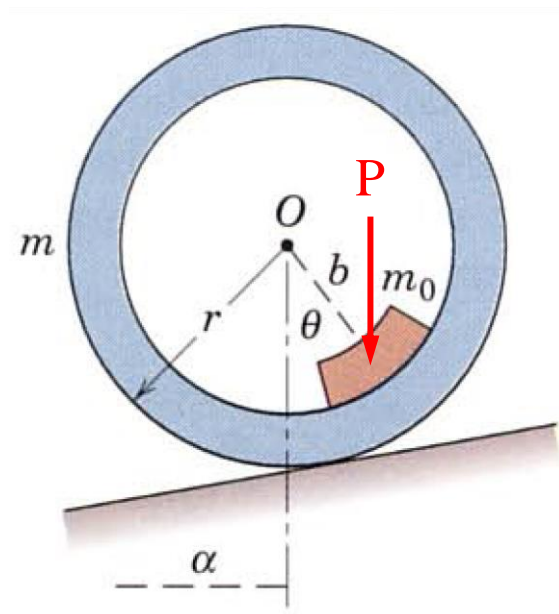

Fig. 1
1. A uniform ring of mass m and radius r , shown in Fig. 1 carries an eccentric mass m_0 at a radius b and a vertical Force of P Newton is acting at the centroid of the eccentric mass and the ring is in an equilibrium position on the incline, which makes an angle α with the horizontal. If the contacting surfaces are rough enough to prevent slipping, calculate the angle θ which defines the equilibrium position. Take, $m = 40 \text{ kG}$, $m_0 = 20 \text{ kG}$, $r = 10 \text{ meter}$, $b = 8 \text{ meter}$, $\alpha = 15^\circ$.